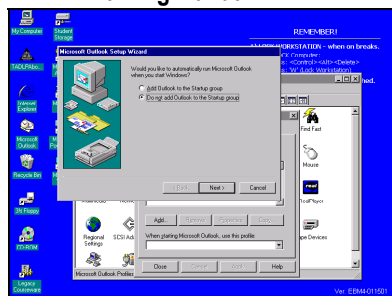

FIGURE II.10
- 10) (This next step may change at a later date) Accept the default of not auto-starting Outlook when you login. (see figure II.10) Select next to continue.